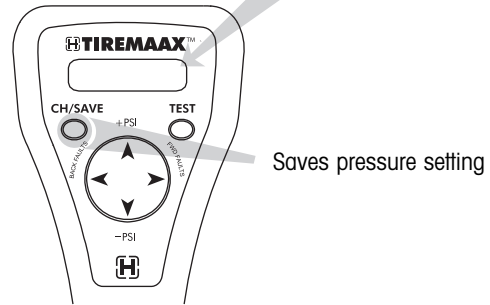

Figure 8. Saving the new target pressure setting
3. Press the CH/SAVE (change / save) button to save the new target pressure setting (figure 8).